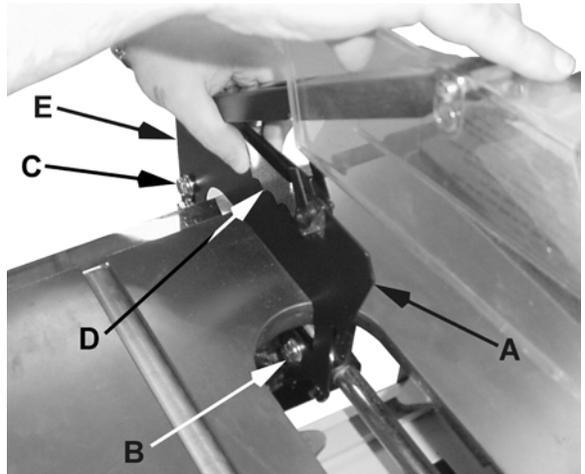

Figure 16
- Slide the front tab of the blade guard splitter (A, Fig. 16) onto the hex cap screw, lock washer and flat washer (B, Fig. 16) on the splitter bracket. Make sure that the tab is between the flat washer and the splitter bracket.
- Note:** The anti-kickback pawl (D, Fig. 16) should be held back when performing this step.
- Insert the rear tab between the locating plate and flat washers (C, Fig. 16). Tighten the hex cap screws holding the rear of the blade guard (E, Fig. 16) just enough to hold in place.
- Tighten the front tab (B, Fig. 16) enough to hold in place but loose enough to allow for adjustment. You will need to install the blade before the final adjustment.